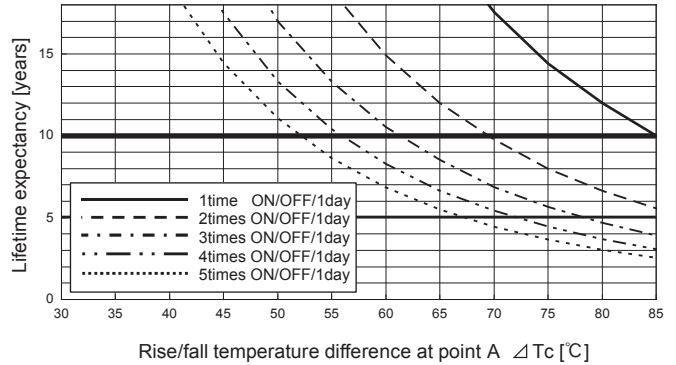

Fig.11.7 Lifetime expectancy against rise/fall temperature difference
■ Product lifetime expectancy depends on case temperature difference ( $\Delta T_c$ ) and number of cycling in a day is shown in Fig.11.7 (It is calculated based on our accelerated process test result.)
■ The warranty period is basically 10 years, however it depends on the lifetime expectancy which is shown in Fig.11.7 if it is less than 10 years.